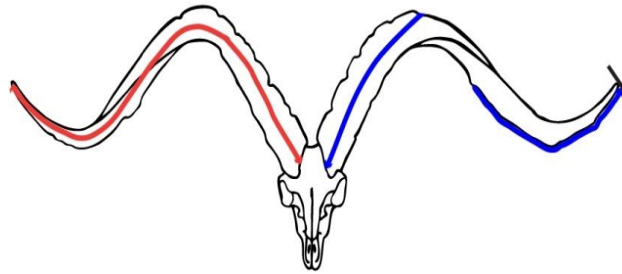

Figure 1 Bezoar with Extreme Spread
1. Length. Measure the center of the front horn from the lowest edge of the base to the tip. Follow the grain. (Figures 1 thru 7)